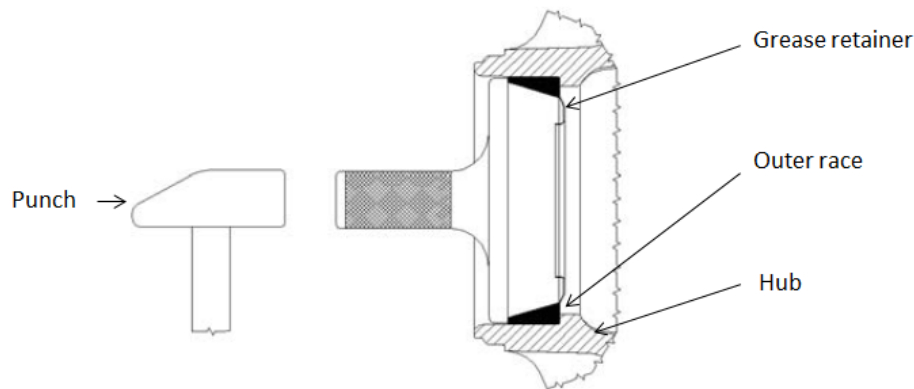

Figure 67 — Inserting New Outer Races
3. Insert the outer races as shown in Figure 67.